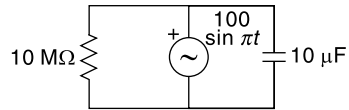

Fig. 14.6
14.14 Calculate the maximum energy stored in the capacitor and energy dissipated in the resistor in the time interval $0 < t < 1 \text{ s}$ in the circuit shown in Fig. 14.6.